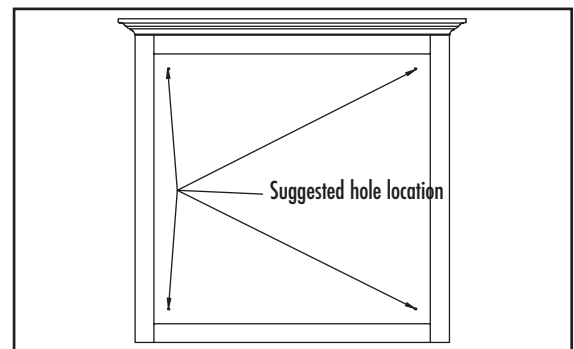

Figure 33
- Mark the location(s) of the wall studs (if available) on the inside of the cabinet and drill two 3/16" holes through the hanging rail and two 3/16" holes through the cabinet back (Figure 33).